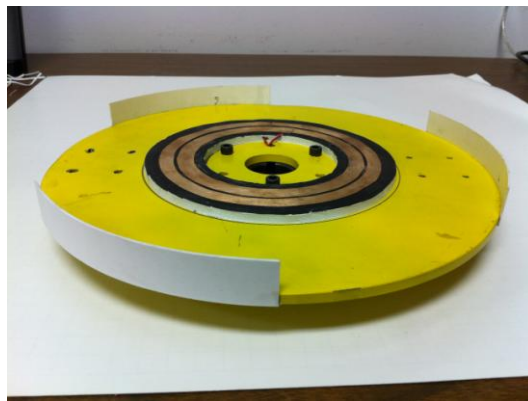

Figure 9 – Testing platform set down on collar
- c. Place the disk on a flat surface, resting upside down on the collar and not on the white paper strips. Figure 9 shows the proper way to set the disk down.